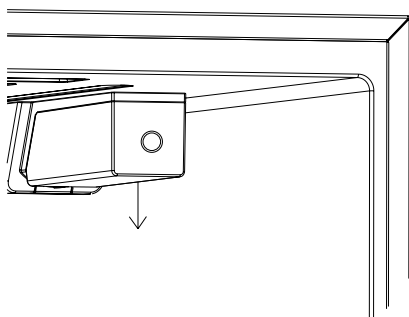

Figure 1
1. When the refrigerator is used for the first time, press in the button on the front of the filter cover and move the filter cover downward (*Figure 1*).